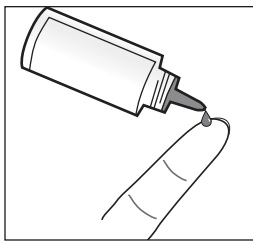

Figure 16
- Squeeze the bottle again to get a second drop onto a clean, non-absorbent surface or on your fingertip. *See Figure 16.*